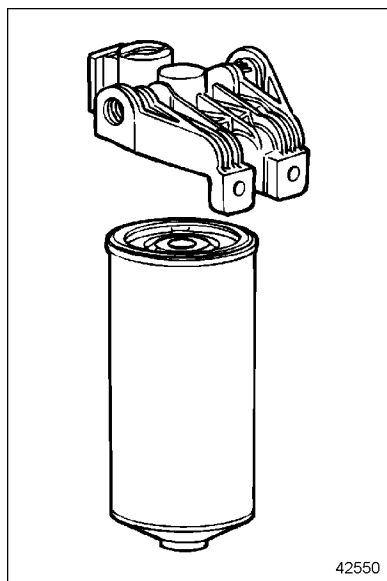

Figure 24 Typical Spin-On Type Fuel Filter
4. Using a suitable band type filter wrench, remove the primary and secondary fuel filters. See Figure 24. Dispose of the filters in an environmentally responsible manner, according to federal (EPA) and/or state recommendations.